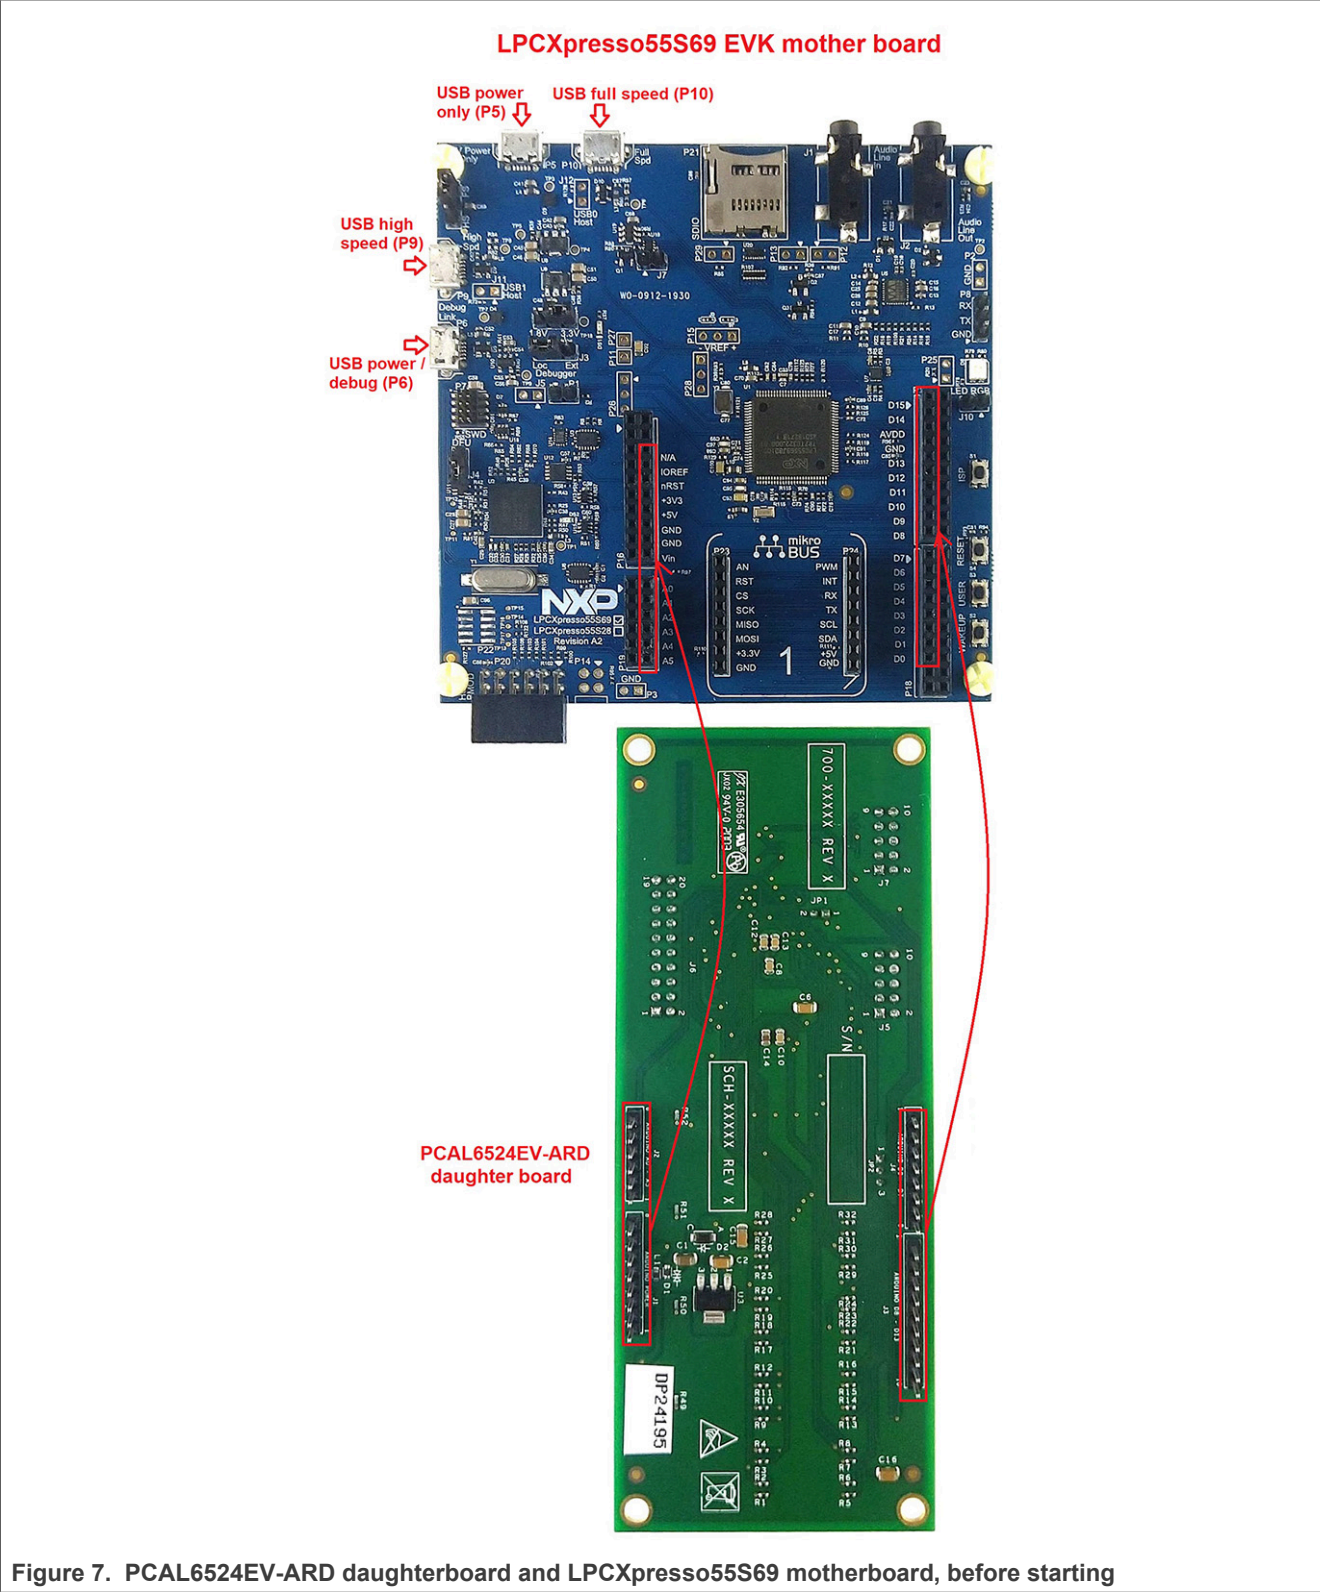

Figure 7. PCAL6524EV-ARD daughterboard and LPCXpresso55S69 motherboard, before starting
Figure 7 shows the required hardware for operation of the PCAL6524EV-ARD and LPCXpresso55S69 EVK board. This configuration consists of:
The following steps describe how to assemble, program, and operate the configuration shown in Figure 7.
1. Insert the PCAL6524EV-ARD daughter card to P16 – P19 connectors located on LPCXpresso55S69 development board (see the marked pins of P16 – P19, Figure 7);